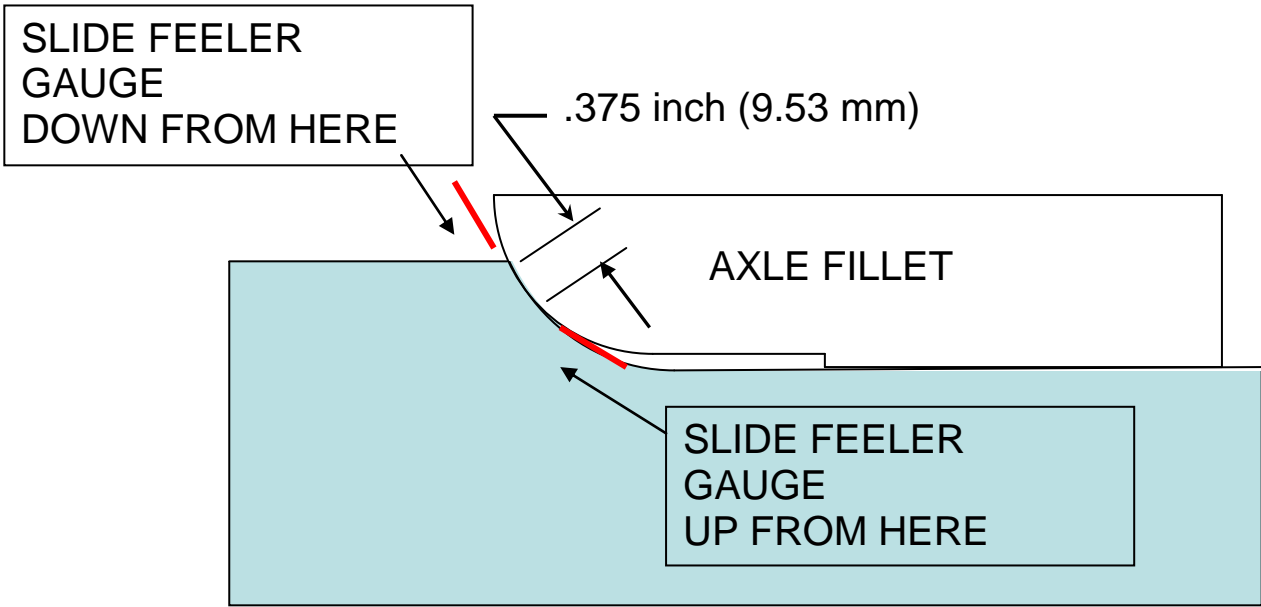

Figure 3 – Axle Fillet Gauge and Usage
- 6) **Check the fillet** for excessive galling or fretting. Verify its geometry with a journal fillet gauge. See Figure 3 (AAR Figure 4.6, 5.18). A 0.005” feeler gage must not fit between the gage and the top edge of the fillet for a substantial portion of the edge circumference.